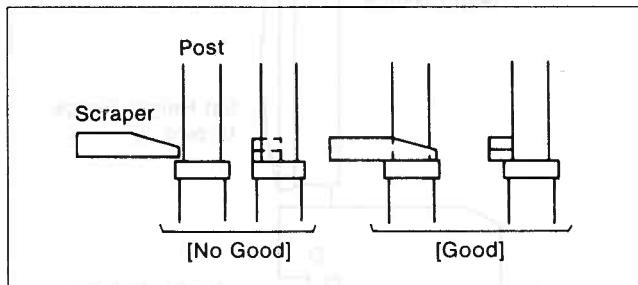

Figure M13
4. Place the scraper of Reel Table Height Gauge as shown in Figure M13.